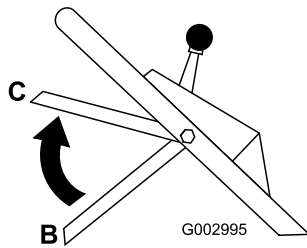

Figure 20
4. Bring the blade control bar up into the middle position about 5 inches (12.7 cm) below the handle cross bar (Position C in Figure 20).
5. Release the blade control bar (Position B in Figure 20).